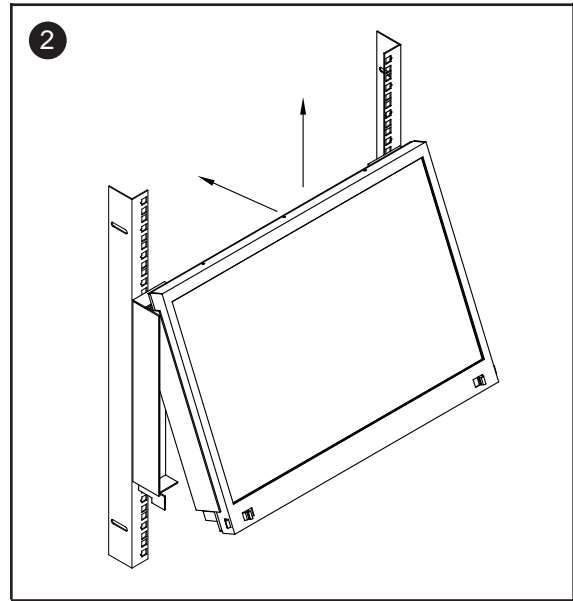

Figure 6.
■ Insert the upper part of the LCD display to the rack shown in **Figure 6**.